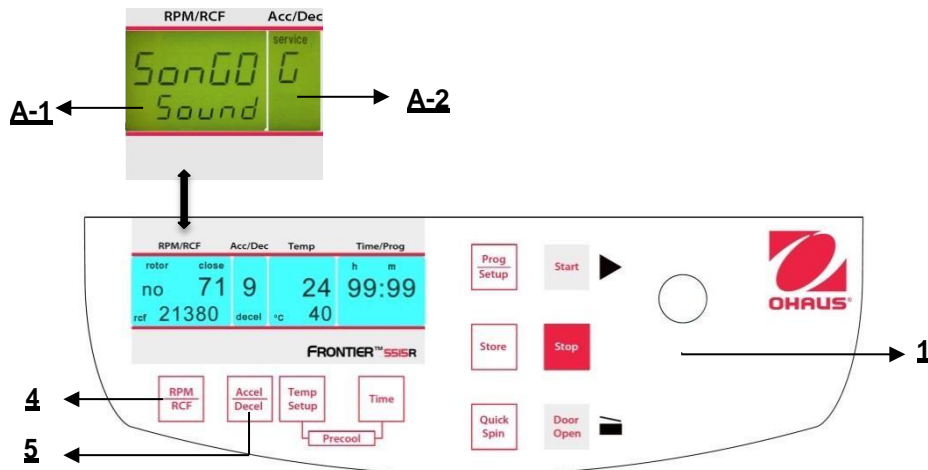

Figure. 35
Proceed as described under point 4.1.2 to enter this program mode and then press the key "Accel/Decel" (5). In the display "Acc/Dec" (A-2) the word "Service" flashes. Now select the letter "G" with the adjusting knob (1). As a result, in the display "RPM | RCF" (A-1), the word "SonGo/Sound" appears. After pressing the key "RPM | RCF" (4), you can select a song with the adjusting knob (1). (See figure 35).